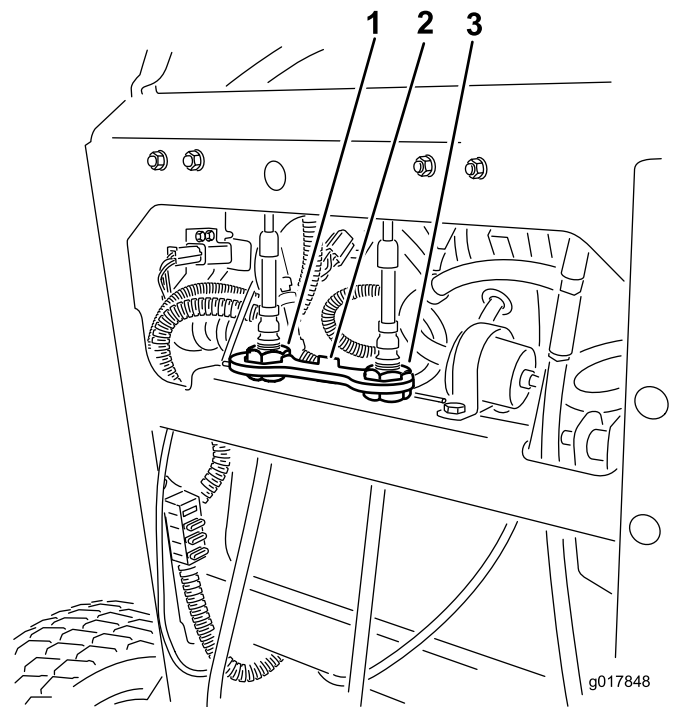

Figure 56
4. Lift and remove the cable lock securing the cable adjusting nuts (Figure 56).
5. Rotate the right cable adjustment to position the right motion control lever in the center of the control panel neutral lock slot (Figure 56).
10. Install the cable lock onto the cable adjusting nuts to secure the adjustment (Figure 56).